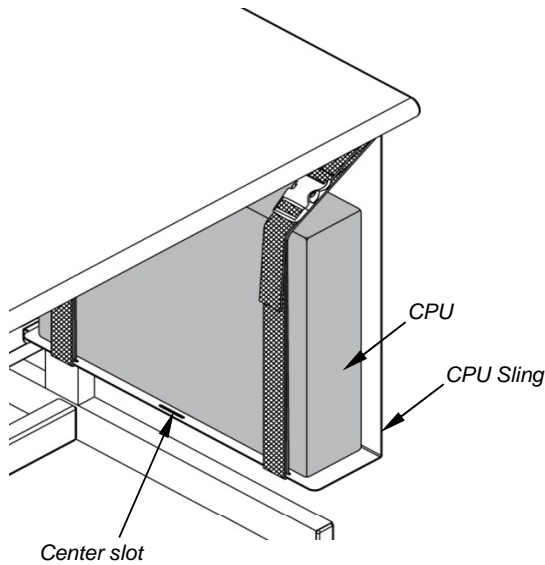
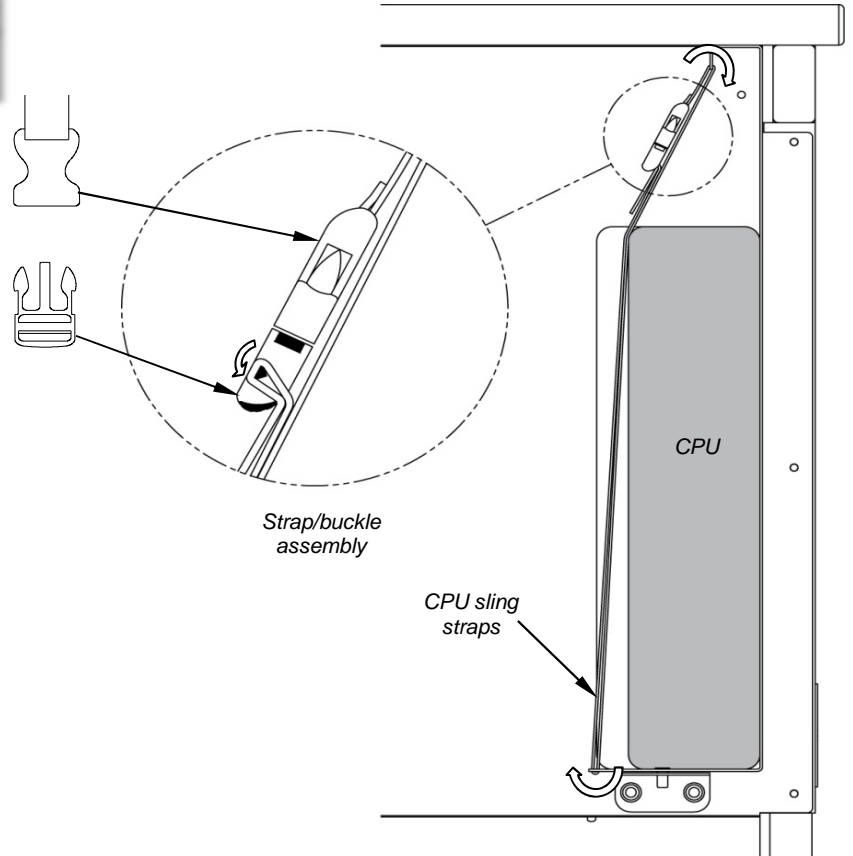

Figure 3A
Figure 3B
2. Make sure the CPU will be supported by both straps. Tighten the straps around the CPU while keeping the buckles positioned as high as possible to avoid interference. **Figure 3A.**
**Note:** The center slot can be used for better support of smaller profile CPU's. If the center slot is necessary, take the rear strap out of the rear slot and thread into the center slot shown in **Figure 3A**. Thread the strap as shown in **Figure 3B**.